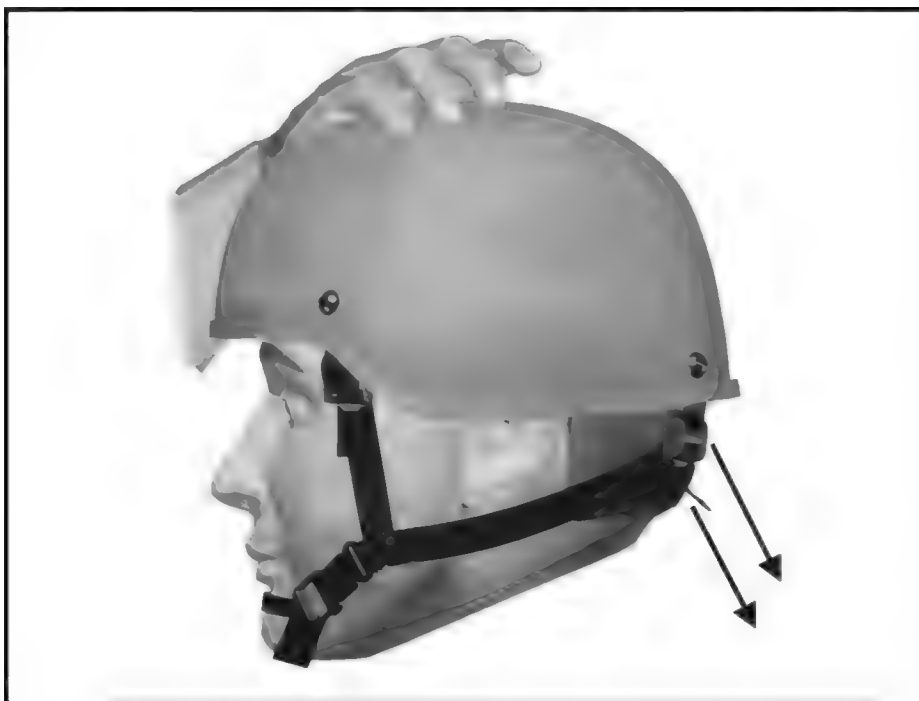

Figure 2-17. Partially tighten two back straps.
(3) **Step 3.** Partially tighten the two back adjustment straps (one side at a time) (Figure 2-17).